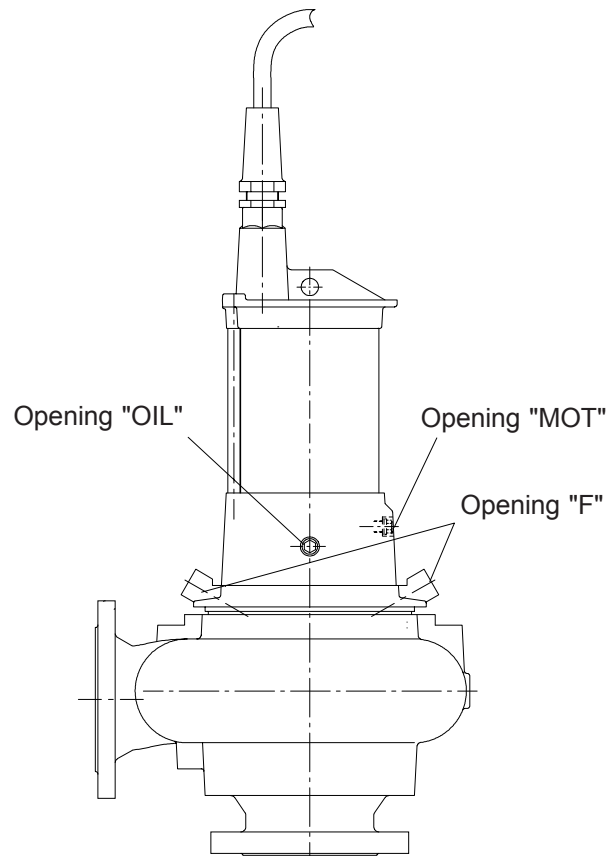

Fig. 7
KEY FOR SYMBOLS ON FIG. 7:
Stand pump vertically on its suction flange. Remove screw plug "MOT" (Fig. 7) with copper washer (536) so that any liquid can run out. Do the following repairs according to what comes out of the motor housings:
Connect source of dry air (from air compressor or bicycle hand pump) to opening left by removal of screw plug "MOT" (Fig. 7). Air pressure should be a maximum of 0.5 bar (7 psi). Motor should then be totally submerged in a test tank.